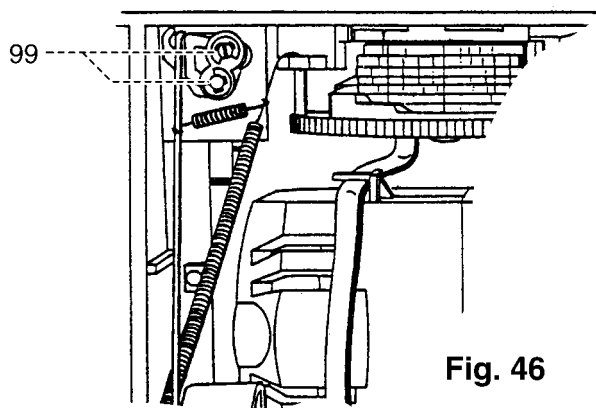

Fig. 46
- Remove circlip 92 (fig. 46).
- Re-attach pull rod 93 and refit circlip 92 (fig. 46).